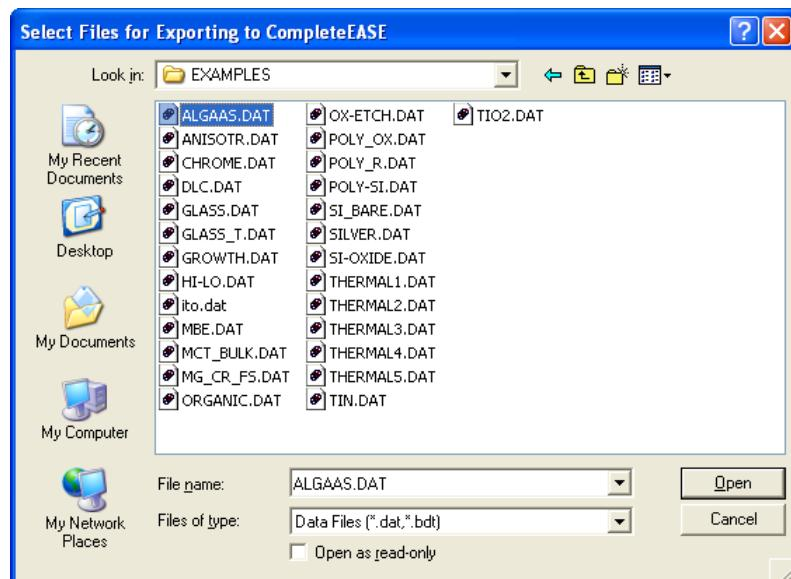

Figure 11-6. Choose WVASE32 data files you wish to export.
2. Browse and select the WVASE32 data files for exporting to CompleteEASE, as in Figure 11-6. Multiple files can be selected.